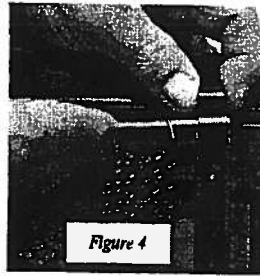
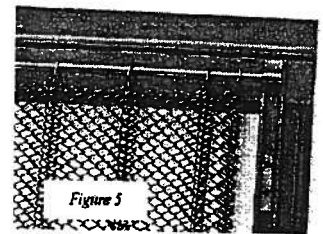

Figure 4
Figure 5
STEP 5 - Place End rod bracket over slide rod (see figure 4). Slip end rod bracket into extrusion channel (see figure 5).